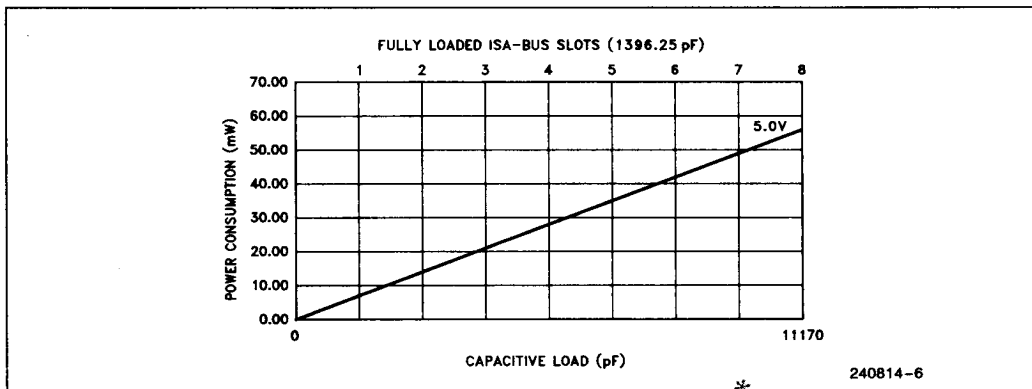
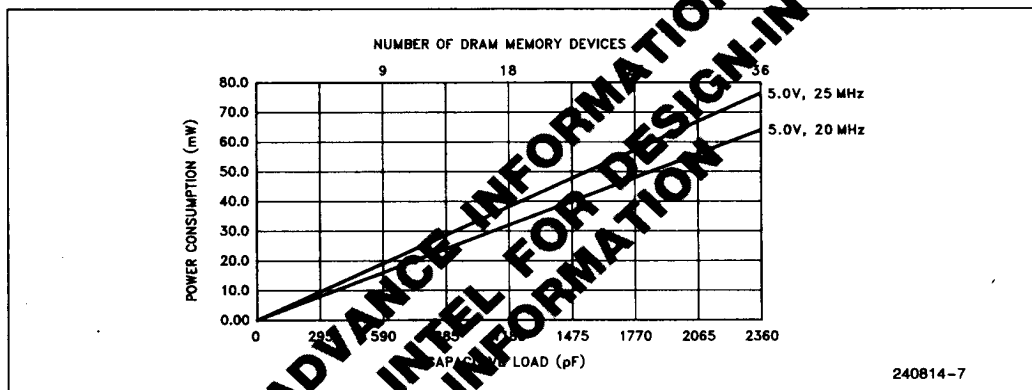
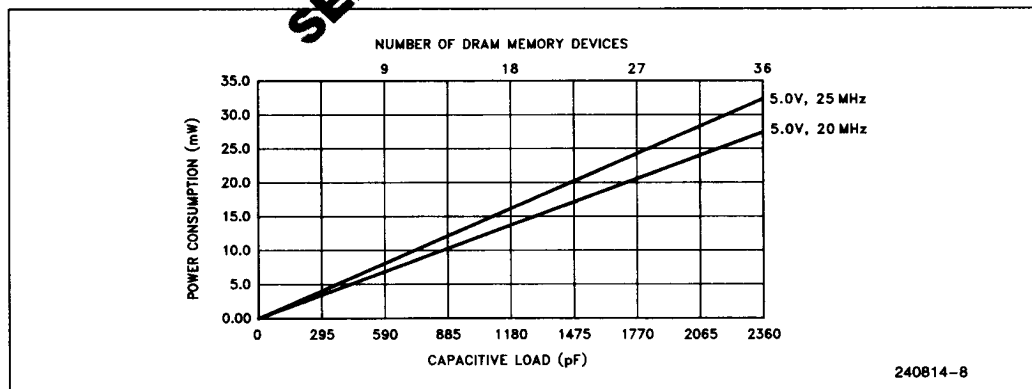

Figure 2.3. ISA Bus
Figure 2.4a. Memory Bus without Cache
Figure 2.4b. Memory Bus with Cache
Figure 2.3 illustrates the power consumption in milli-Watts with respect to the capacitive loading on the ISA bus signals of the Intel386 SL CPU. A set of two curves with  $V_{CC}$  at 5V and CPUCLK frequencies at 20 and 25 MHz are plotted in Figure 2.4a. This set of curves is provided for the memory bus without a cache subsystem in Figure 2.4a. The power consumption with respect to load capacitance for the memory bus with a cache subsystem is illustrated in Figure 2.4b. To find the Power (P in milliWatts) of the Intel386 SL CPU for the configuration of your system, use the following method.
2. From the curves in Figure 2.3, use the voltage of your system and the total capacitive load of all of the Intel386 SL CPU ISA signals to find the power consumed by the ISA-bus interface.
3. If a cache is connected to the Intel386 SL CPU in your system, use Figure 2.4b to find memory bus power. If cache is not connected, use Figure 2.4a.
From Figure 2.3, the power consumed by the ISA expansion bus interface is found to be 15 mW (the total capacitance of all the pins of a fully loaded AT-bus slot is 1396.25 pF). For a system with no cache, the power consumed by the memory bus for 8 chips is about 15 mW from Figure 2.4a. The internal power at 20 MHz is 1220 mW from Table 2.3-5. The power consumed by Intel386 SL CPU is the sum of the power for the internal power (ISA bus and CPU core) and memory bus. The total power consumed by the Intel386 SL CPU for this system is 1250 mW.
For a system with cache, the ISA bus interface power is 15 mW as previously determined. The memory bus interface power is determined from Figure 2.4b is found to be 8 mW. The internal power remains 1220 mW. The cache bus power is read off from Table 2.3-6 to be 30 mW and the cache internal power from Table 2.3-7 is 170 mW. Hence, in this system, the Intel386 SL CPU consumes a total of 1443 mW.